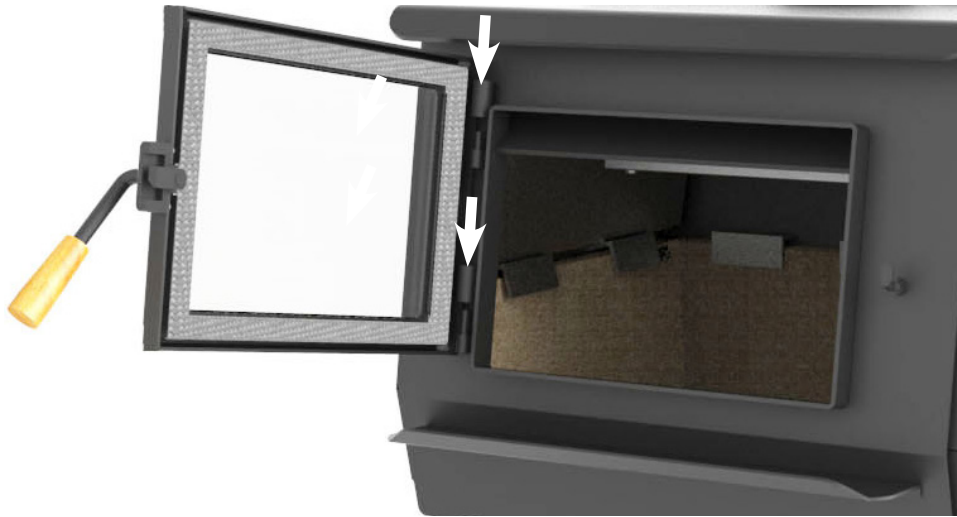

Fig. 4
1. Align bottom door hinge hole with bottom firebox hinge pin. **(Fig. 4)**